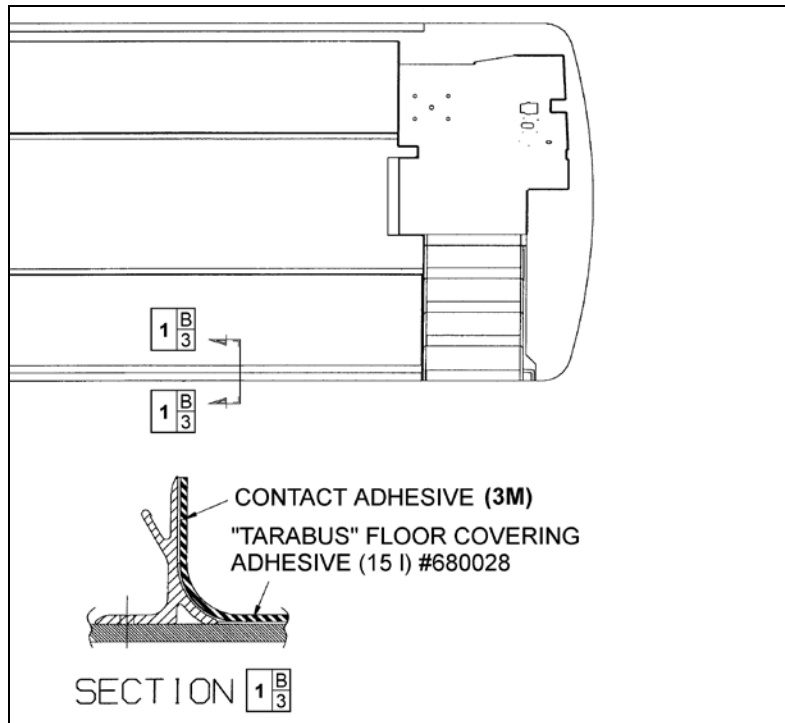

FIGURE 80: TARABUS FLOOR COVERING ADHESIVE APPLICATION 18640
6. Apply floor covering adhesive (680028) onto plywood using a serrated spreader with 1/8-inch serration. If required, apply contact adhesive (3M) (684655 or 684654) onto aluminum molding and also onto section of floor covering, which will be in contact with molding (refer to Figure 80).